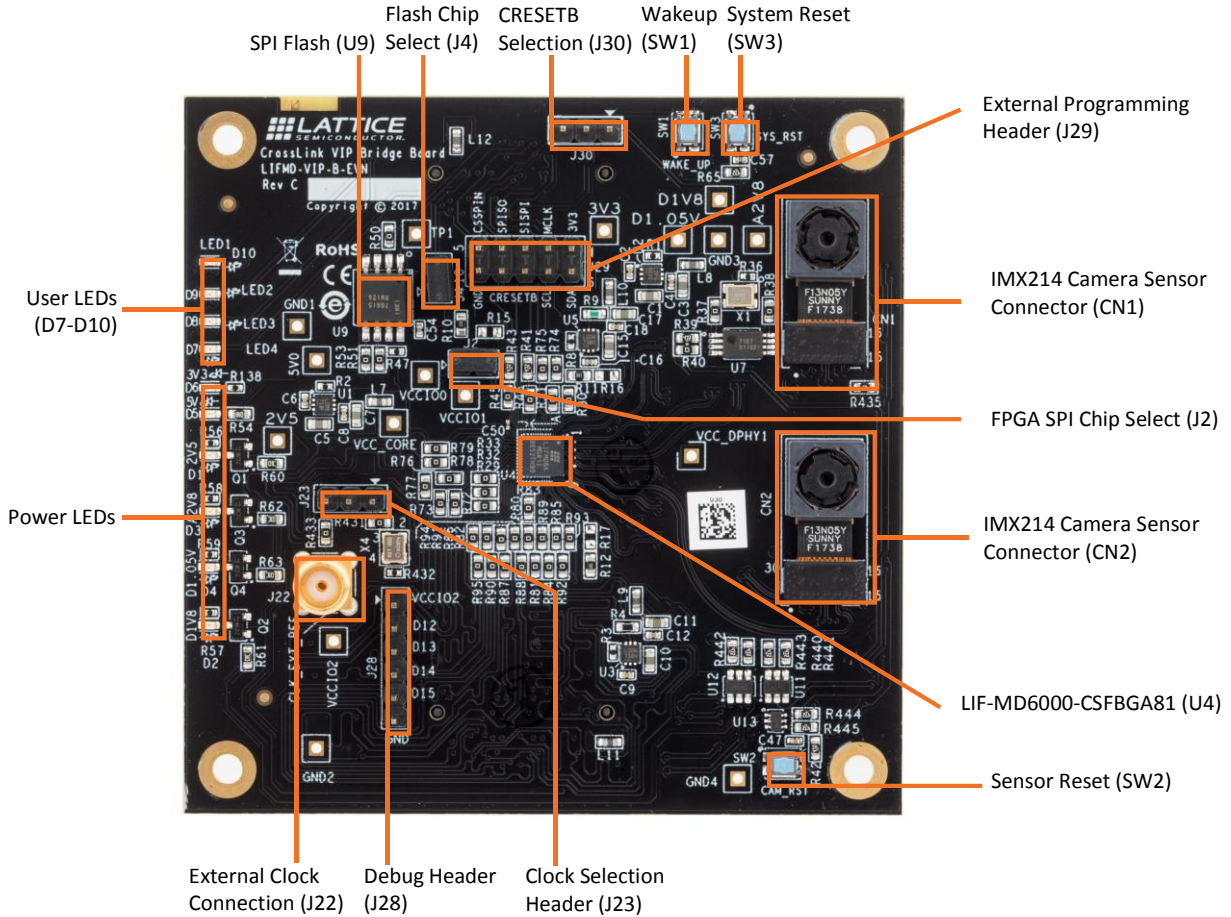

Figure 3.2. Top View of CrossLink VIP Input Bridge Board
2. On the CrossLink VIP Processor Board (see Figure 3.2), ensure that SW2 is ON to power the board (LEDs should be ON).